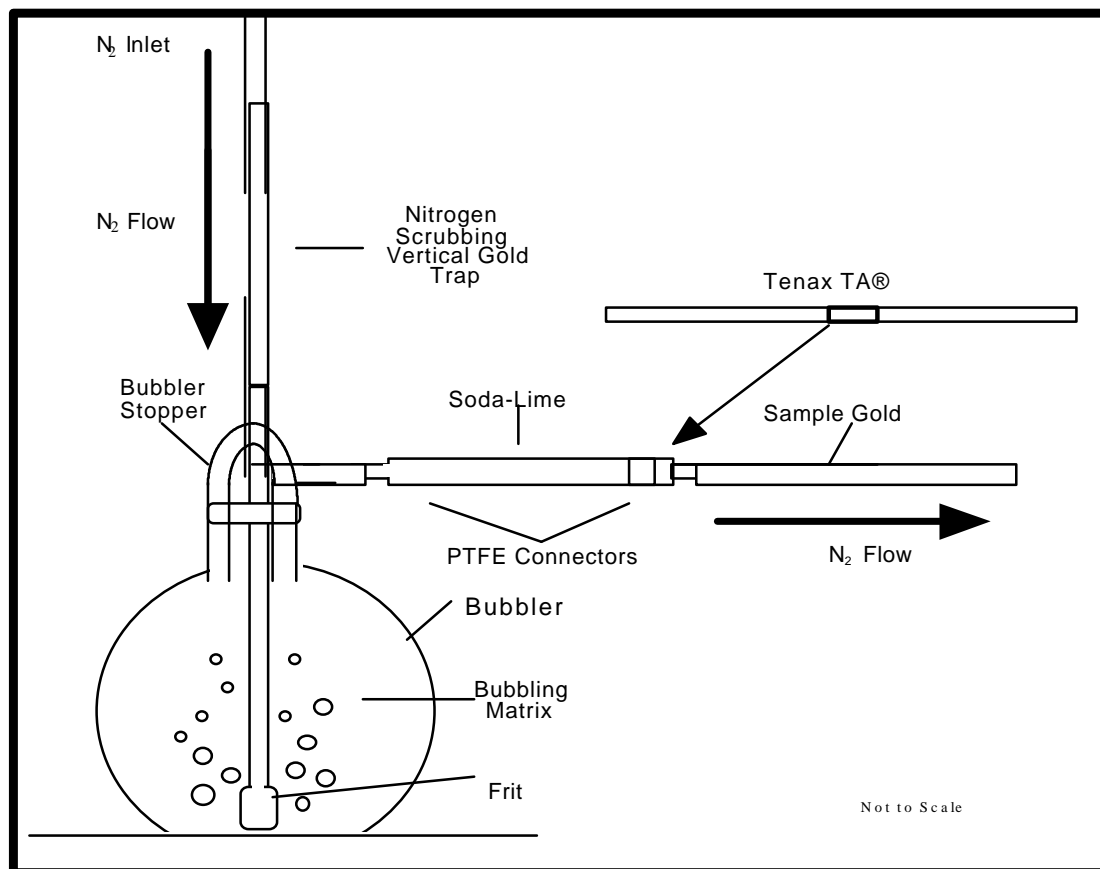

Figure 4. Total Mercury Purging and Trapping System.
- 8.3.4 After removing the end-plugs, attach the gold traps to the vertical inlets on the bubbler stoppers. Plug the N₂ lines into the gold traps. See Figure 4.